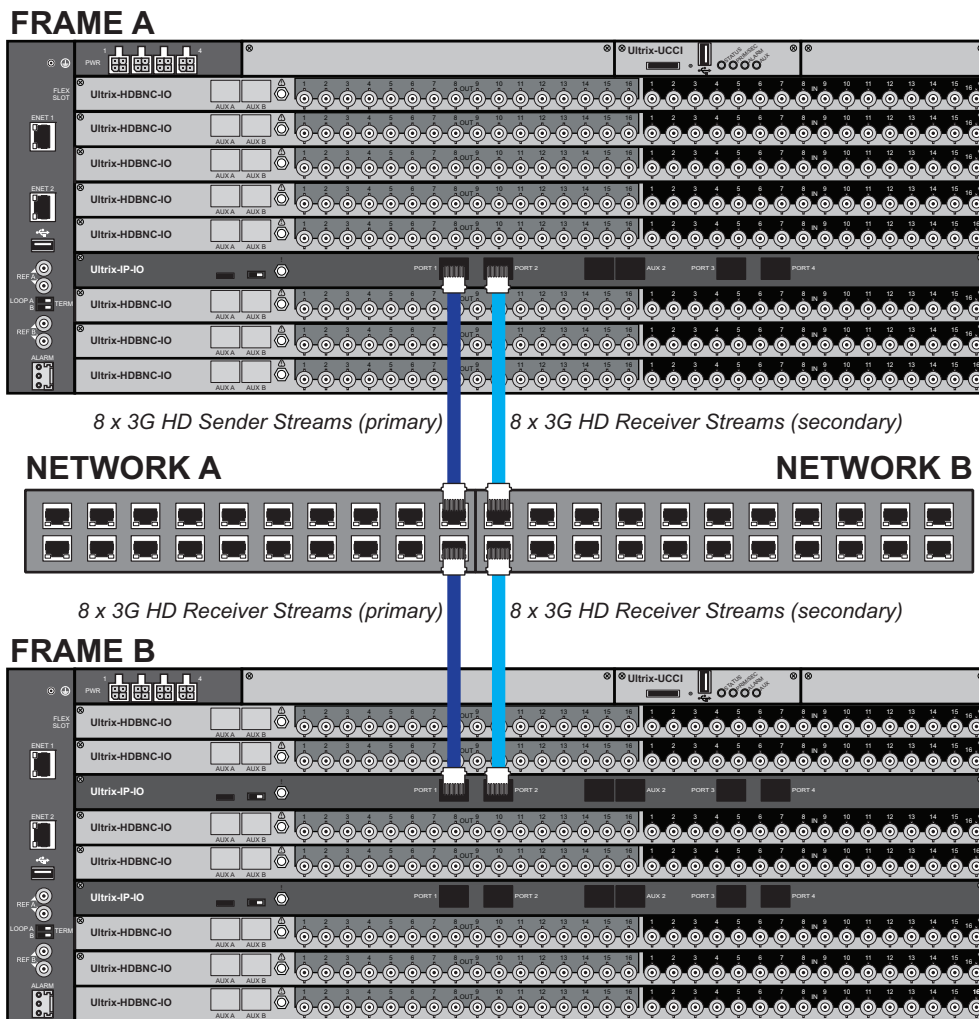

Figure 33 Example of ULTRIX-IP-IO with 3G HD Video Streams — Redundancy Mode
**Figure 33** shows two ULTRIX-FR5 routers with one router (Frame A) transmitting eight 3G HD primary video streams and eight 3G HD secondary streams. The second router (Frame B) receives two sets of eight 3G HD streams (primary and secondary).